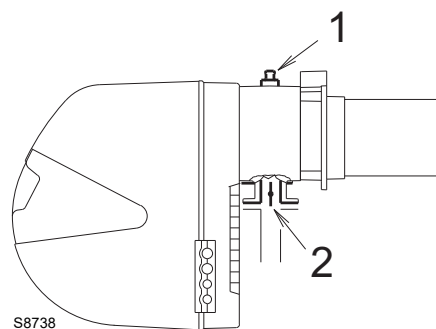

Fig. 27
Gas pressure measured at the test point 1)(Fig. 27), with:
Pressure loss at gas butterfly valve 2)(Fig. 27) with maximum opening: 90°.
- Subtract the combustion chamber pressure from the gas pressure measured at test point 1)(Fig. 27).
Gas pressure at test point 1)(Fig. 27) = 12.8 mbar
To know the required gas pressure at test point 1)(Fig. 27), set the maximum output required from the burner operation, then:
- Read, on the right (column 1) the socket pressure 1)(Fig. 27).
gas pressure at test point 1)(Fig. 27).